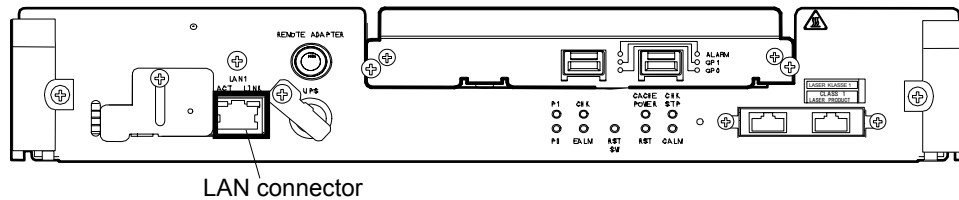

Figure 8-1 LAN Connector Location
2. Connect the LAN cable with the LAN connector shown in Figure 8-1.